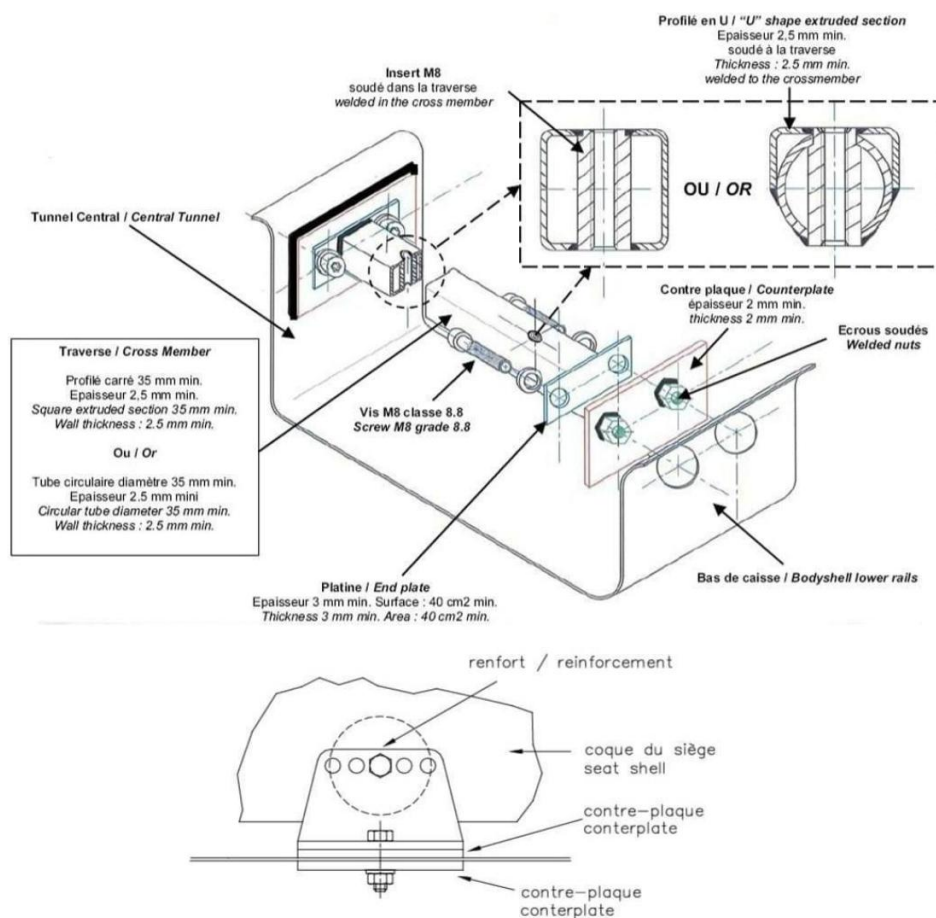

Fig 1.1
b. Seat mounts directly made on the chassis/body must comply with FIG 1.1.
- f. Any atypical mounting system (which does not follow the standards and shape from Figure 1.1) deemed unsafe by the technical committee must be remedied/replaced to allow the vehicle to register for the competition.